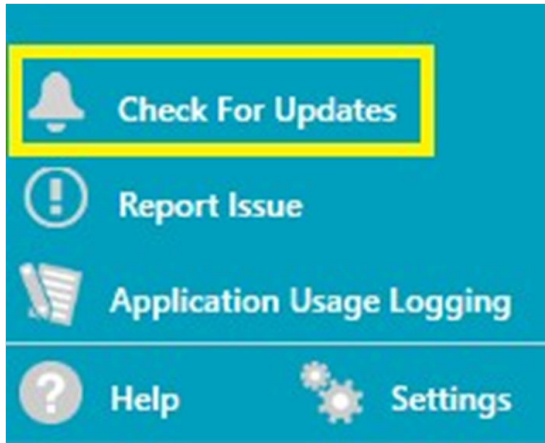

Figure 21. Check for Updates in the ACE Sidebar
- Download and install the ACE software tool from the ACE download page, as per the Installing the ACE Evaluation Software section. If ACE is already installed, make sure you have the latest version by using **Check For Updates** option in the ACE sidebar, as shown in Figure 21.